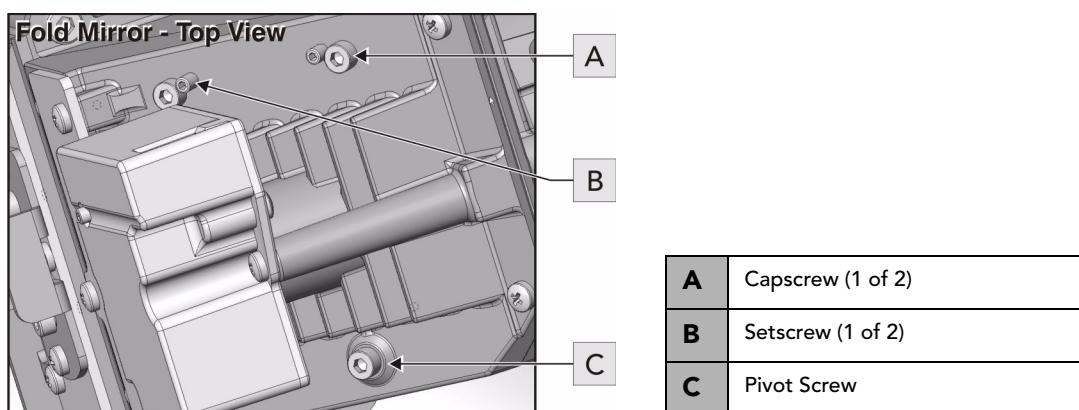

FIGURE 3-15 FOLD MIRROR ADJUSTMENT
1. Use a 1.5mm Allen® key to unlock the 2 setscrews (**Figure 3-15, B**).
2. In order to make adjustments turn the pivot screw 90-180° using a 2.5mm Allen® key (**Figure 3-15, C**).
3. Use the 2.5mm Allen® key to adjust both capscrews, which pivot the fold mirror back and forth (**Figure 3-15, A**).